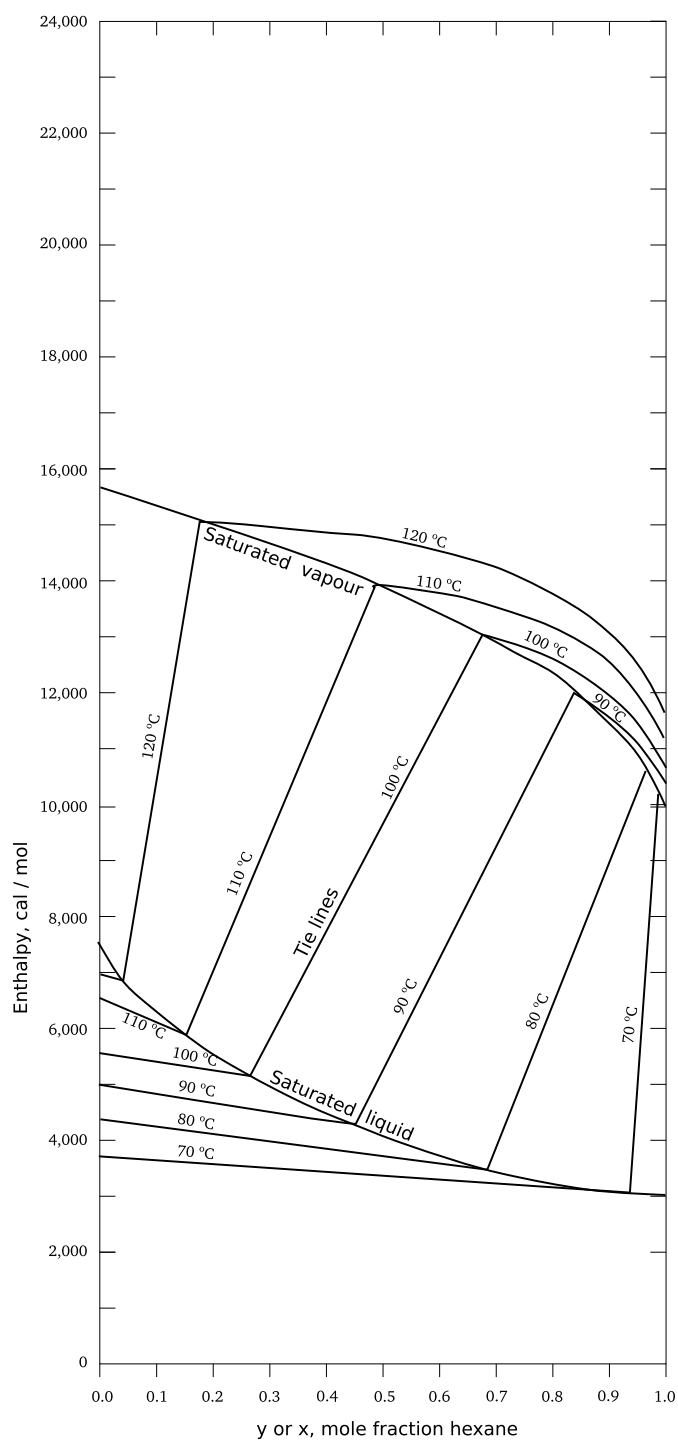

Figure 4: A H - xy graph for n -Hexane/ n -Octane mixtures, including VLE tie-lines, used for Q. 5.
- c) A mixture of n -hexane and n -octane is to be separated by distillation to produce a bottom product containing no more than 3 mol% n -hexane and a top product of at least 95% purity of n -hexane. Using the enthalpy-composition chart (see Fig. 4), determine:
Note: If you draw on the H - x - y graph provided (Fig. 4), remember to include it in your exam booklet for marking.